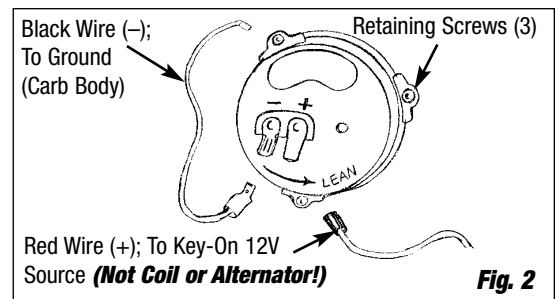

Fig. 2
3. For electric choke hook-up (**See Figure 2**), remove one choke housing retaining screw and install eyelet end of choke ground wire (black) to choke housing and reinstall screw. Connect clip end of choke ground wire to negative (-) spade terminal on choke housing. Connect red wire spade terminal to positive (+) terminal on choke housing. Connect other end of red wire to an ignition key activated 12-volt source. **DO NOT ATTACH TO COIL OR ALTERNATOR.** Ensure this source maintains 12 volts with engine running.